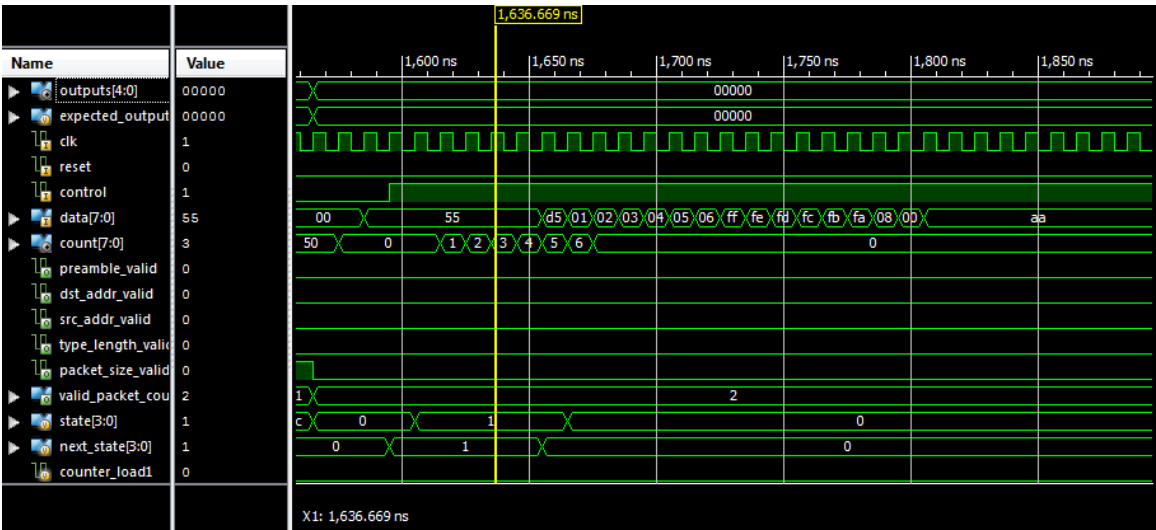
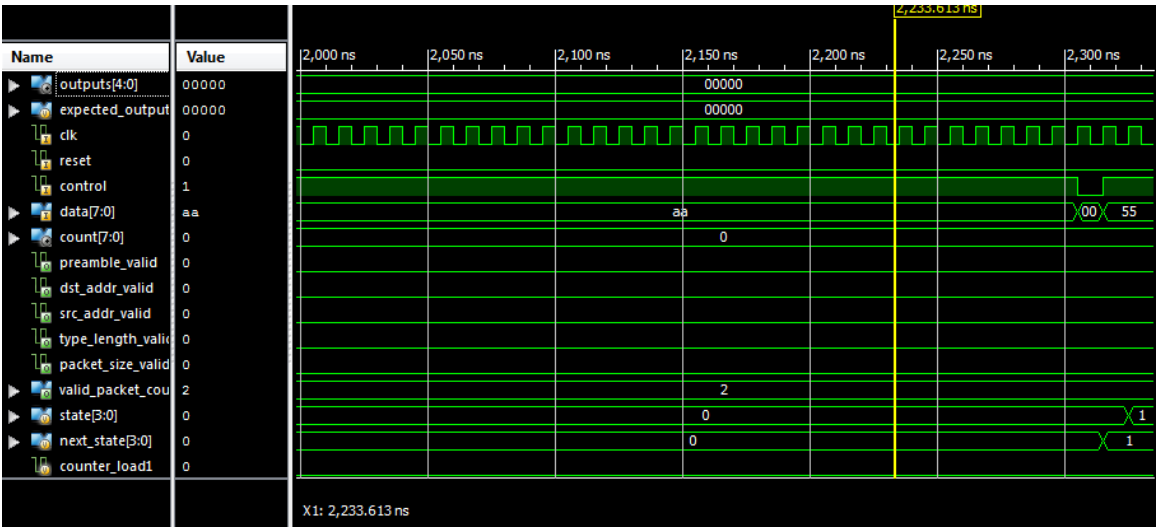

Figure 9-1: Invalid packet
Figure 9-2: Invalid packet
-Invalid packet (Figure 9-1) & (Figure 9-2):